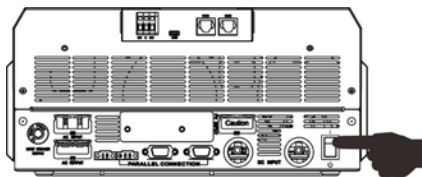

Figure II.14
3. Turn on the inverter (Figure II.14).